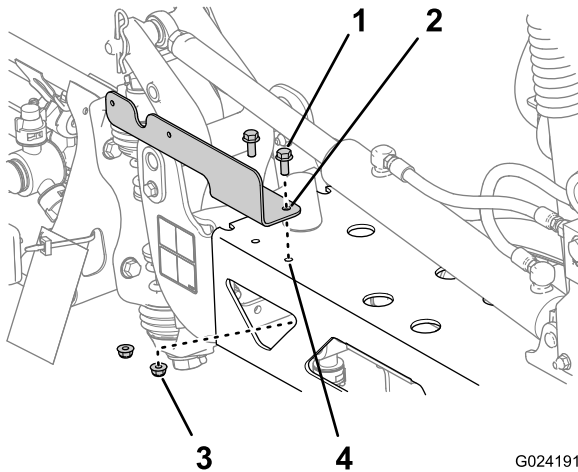

Figure 10
2. Secure the bracket to the frame with the 2 flanged-head bolts (5/16 x 3/4 inch) and 2 locknuts (5/16 inch) as shown in Figure 10.